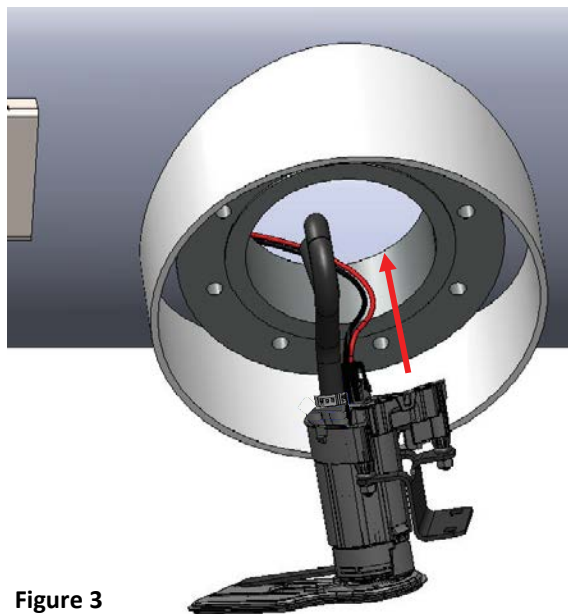

Figure 3
3. Install the fuel pump into the LPI® fuel tank. Start by inserting the fuel pump into the tank, once the flange hits the filter sock turn the fuel pump to the left slightly to allow the pump sock to be installed into the tank. (Figure 3 & 4)